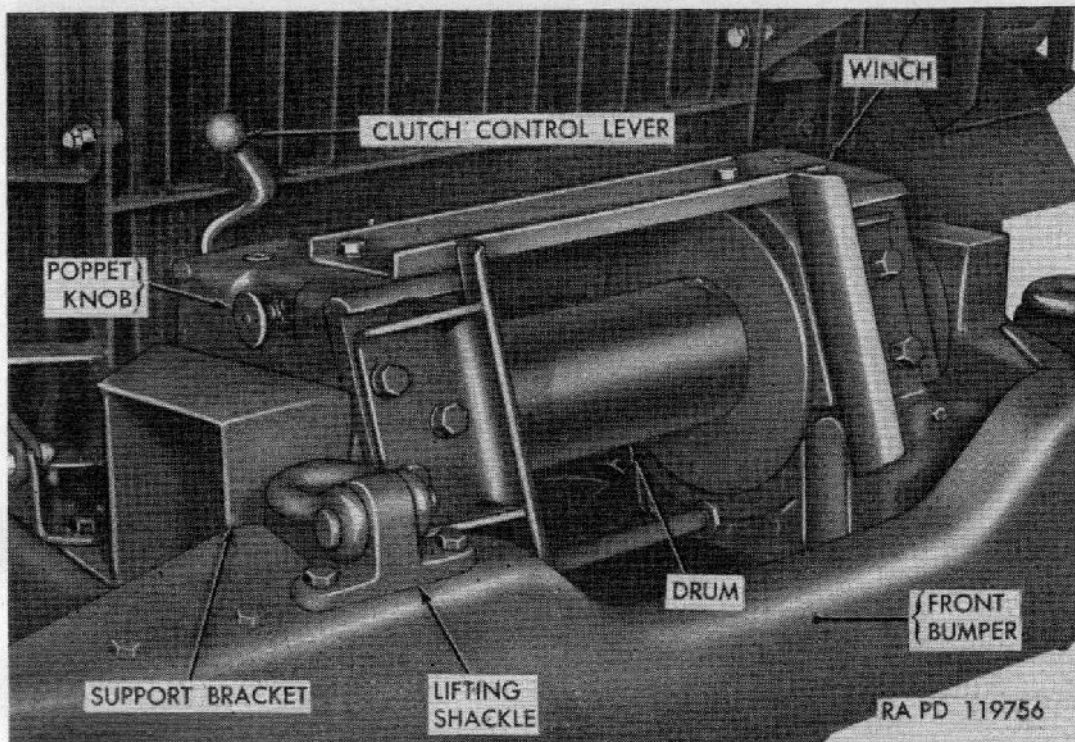

Figure 132. Winch installation.
a. DESCRIPTION. The horizontal drum winch is mounted at front of truck between radiator and bumper on support brackets attached to frame-side-rail extensions (fig. 132). The clutch control lever is located at the top of the end-bearing frame. Power for operating the winch is supplied by the truck engine through a universal joint drive shaft connected to the power-take-off. The drive shaft is connected
a. REMOVAL. Move clutch control level (fig. 132) as far as it will go toward winch drum to disengage jaw clutch and pull out poppet knob (fig. 132) and turn to hold it in out position. Make sure power-take-off shifting lever is in "NEUTRAL" position. Pull wire rope from drum, loosen set screw, and disengage rope.